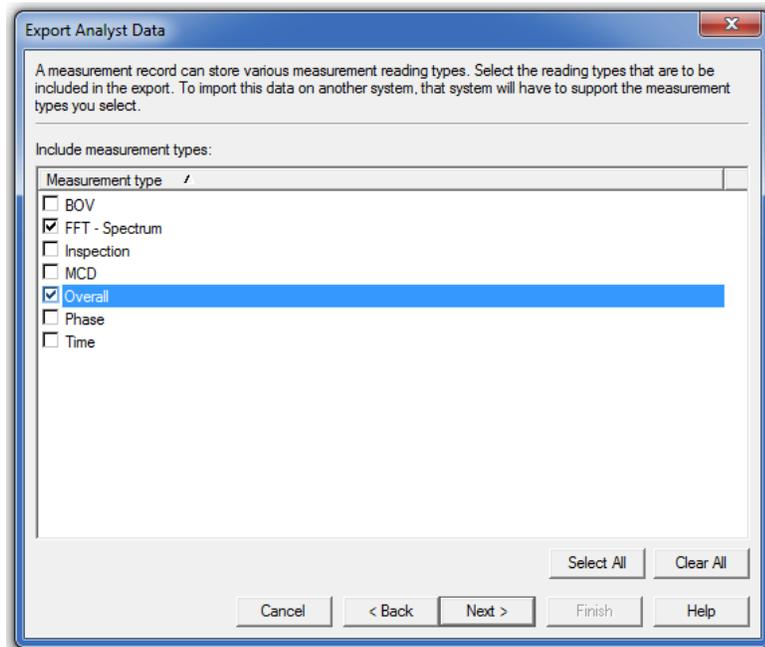

Figure 10. Select measurement types
10. Select measurement types, then click **Next >**. [Figure 10]